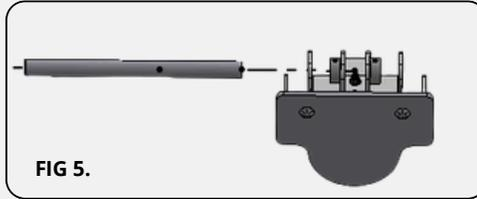
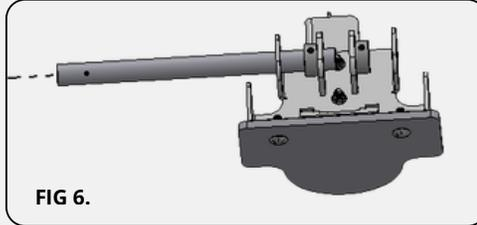
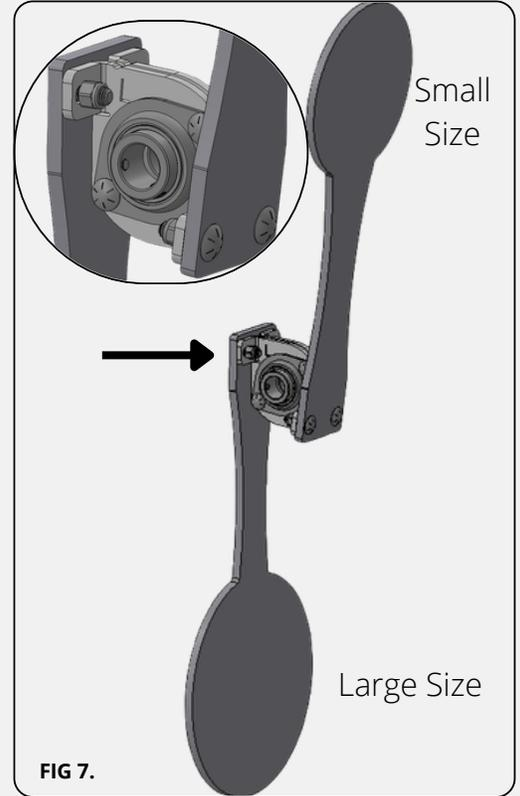

FIG 5.
FIG 6.
FIG 7.
- Slide a shaft into each side of the 2x4 hanger and secure each shaft using both set screws on each side, as shown in FIG 5 & FIG 6.
- Install the larger of the two targets on the side marked "L" so it sits farther back, using (2) 1"x5/16-18" carriage bolts and (2) 5/16" flange nuts.
- As Shown in, FIG 7**